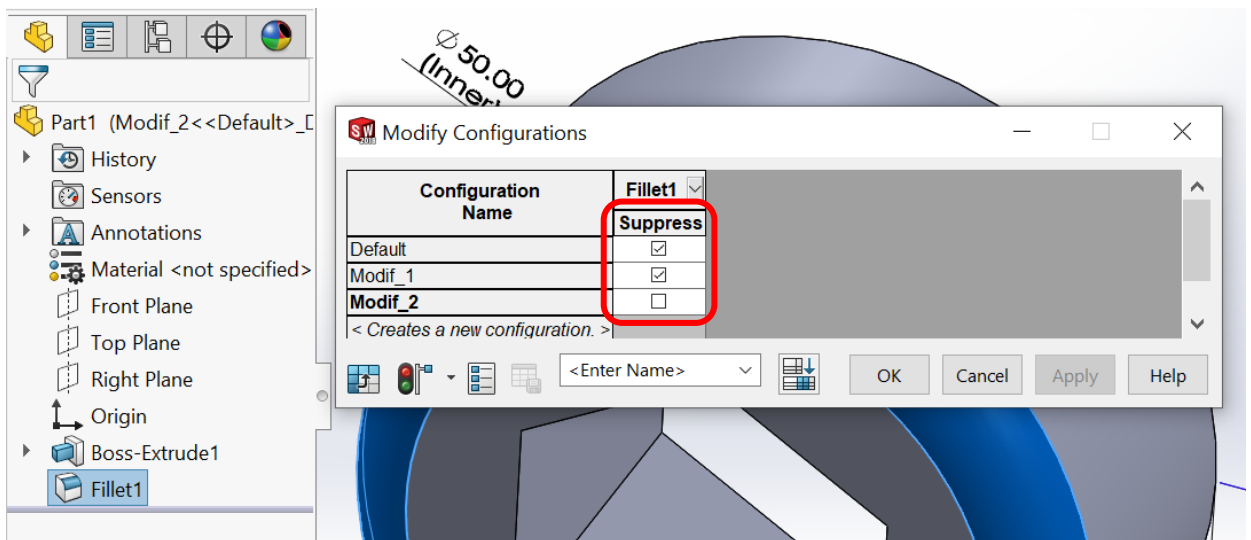

Figure 19 – Changing the status of the feature *Suppress/Unsuppress*
3. In the *Modify Configuration* dialog box, check the configurations in which this feature will not be applied (Fig. 19).